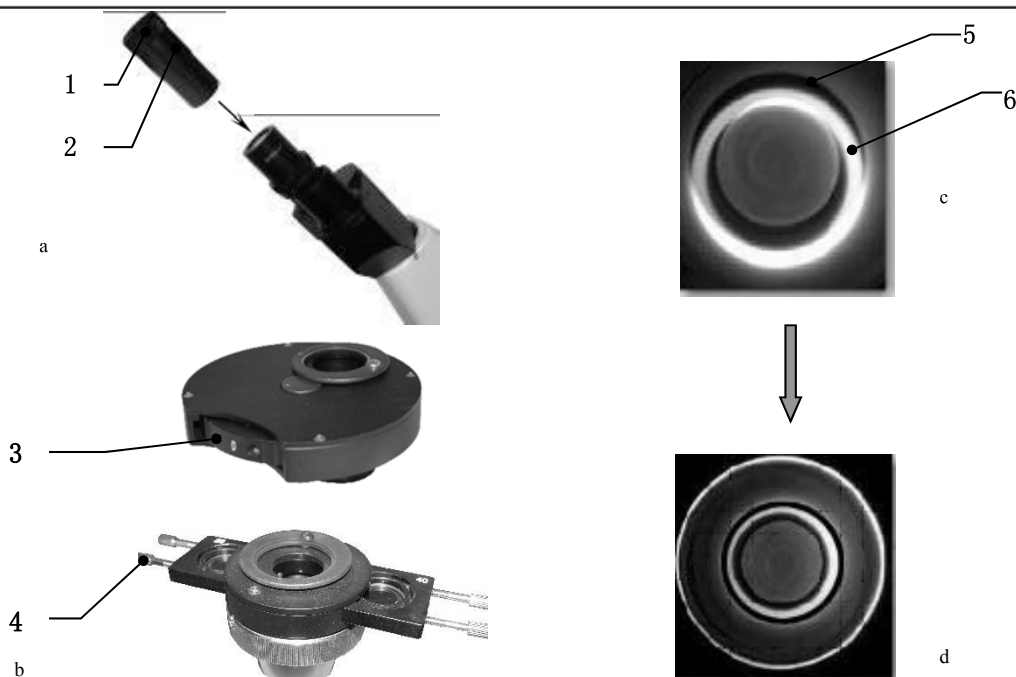

Fig.18
- (1) Remove one eyepiece from eyepiece tube, and insert centering eyepiece 2, as shown in Fig. 18-a.
- (2) A dark ring 5 and a bright ring 6 will be observed in the field of view, as shown in Fig. 18-c.
- (3) If the edge of the dark ring or bright ring is unclear in the field of view, adjust the adjusting ring 7 of the centering eyepiece to make the edge clear.
- (4) In the phase contrast observation mode, the center of the dark ring should coincide with that of the bright ring. If their centers do not coincide, as shown in Fig. 16-c, it is necessary to center the phase contrast turntable or phase contrast puller. Use the hexagon spanner to adjust two screw 3 of the phase contrast turntable to make coincide; adjust the centering screws and 4 of the phase contrast puller to make coincide, as shown in Fig. 18-d.
- (5) After the phase contrast device is centered, the centering eyepiece can be removed, insert working eyepiece.